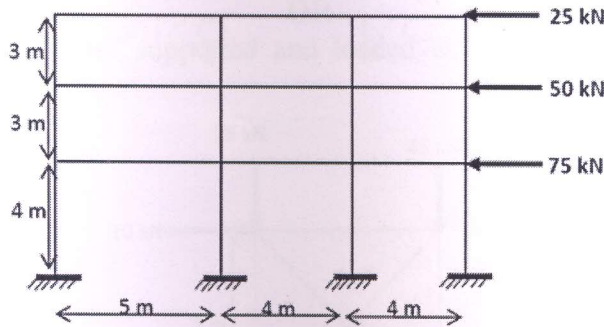

Fig.5
6. Analyse the frame shown in Fig.5, using cantilever method. Draw BMD. [10]